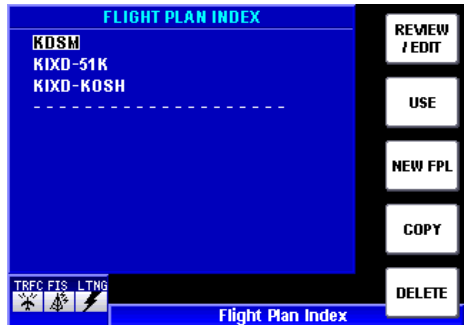

Figure 1-138
3. Press the **OK** Softkey to delete the active flight plan. As shown in Figure 1-138, the active flight plan is no longer displayed. Note also that the previously active flight plan has not been deleted from the list of stored flight plans.